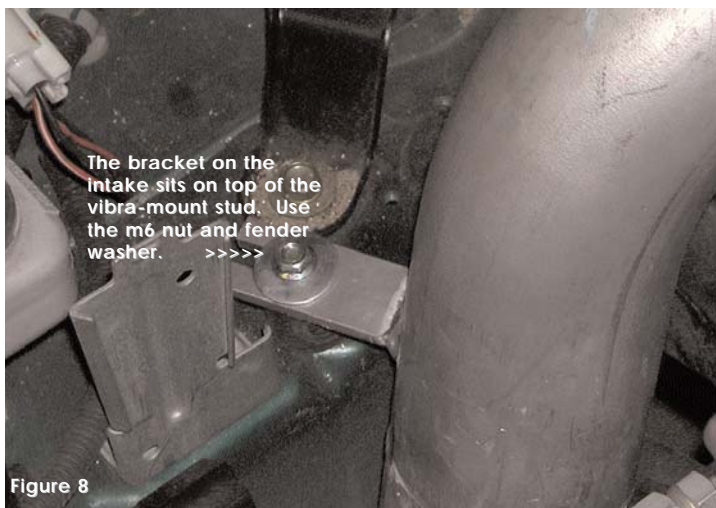

Figure 8
- 5- Take the cold air intake and insert the filter end into the resonator opening. (See fig. 8)
Set and align the welded bracket on the cold air intake to the vibra-mount stud. (See fig. 8)